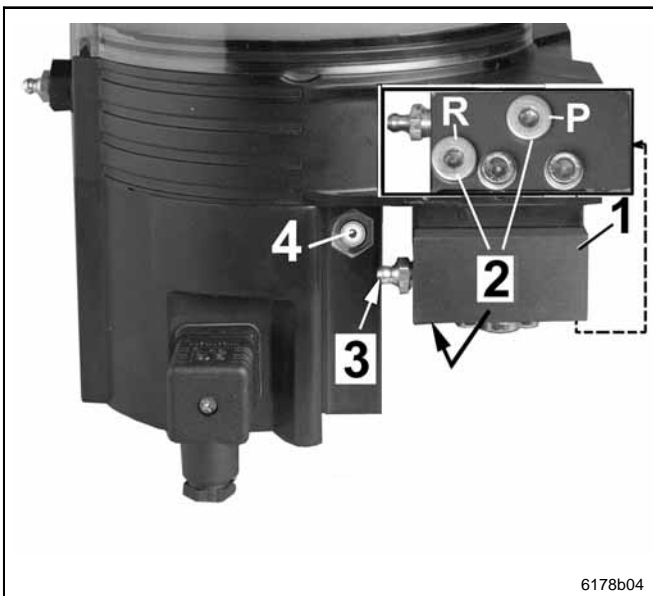

Fig. 16 QLS 401 without mounted SSV divider valve with connection for external SSV divider valve KN QLS
- Pump without the SSV divider block attached respectively with external divider block SSV KNQLS (see fig. 16)